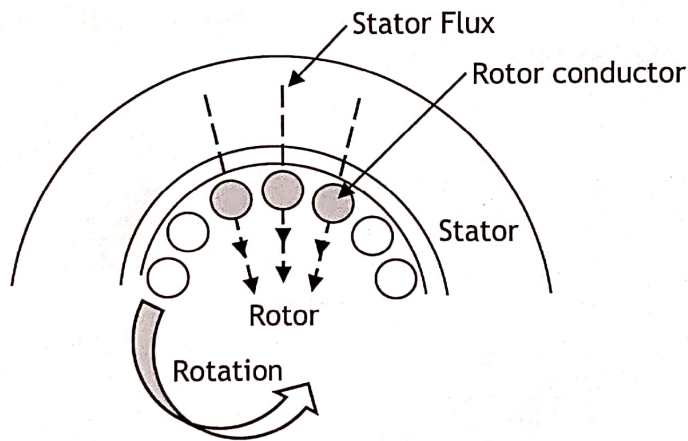

Fig Q8
8. Fig Q8 shows a cage rotor for a three-phase, 4 pole, 60 Hz induction motor which has a full-load speed of 1746 rev/min.
- Explain how to determine the direction of the rotor current, and state whether it is *away from* or *towards* the observer for the shaded conductors. (2)
- Explain with the aid of a labelled diagram how torque is produced. (5)
- slip; (3)
- the rotor frequency. (2)
- Sketch and label a typical torque/slip characteristic for the motor, and indicate EACH of the following: (4)